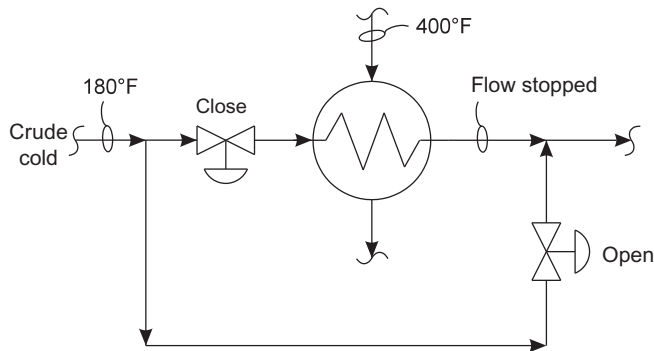

FIG. 17.3 On-line spalling of crude preheat exchanger.
- *Step One*—Open up the by-pass gate valve on the crude side (see Fig. 17.3).